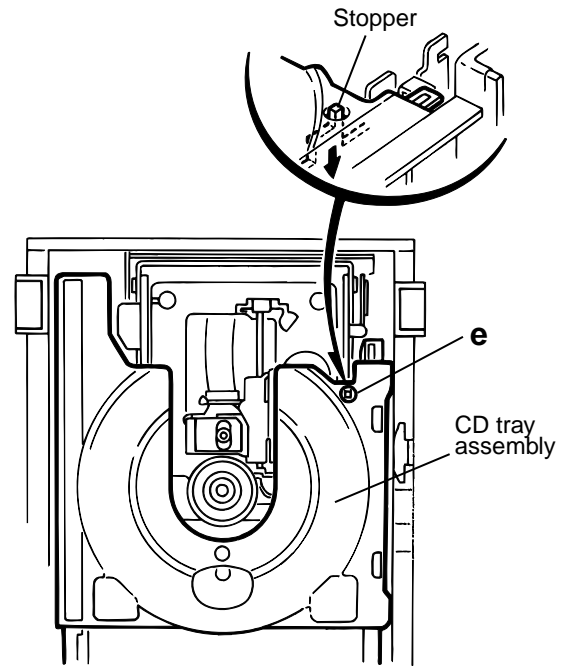

Fig.5
11. Check whether the lifter unit stopper has been caught into the hole at the section "e" of CD tray assembly as shown in Fig.5.
## ■ Removing the Capstan motor (See Fig.5 to 7)